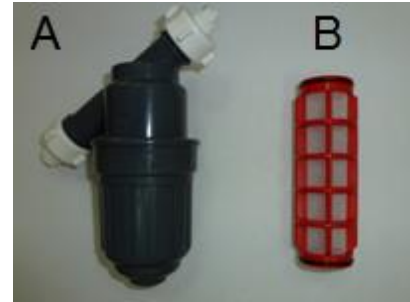

Figure 14. In-line housing and filter
1. Open the filter housing (Figure 14 A) counter clockwise while supporting the upper part.
2. Remove the filter (Figure 14 B) and rains it well under running water.